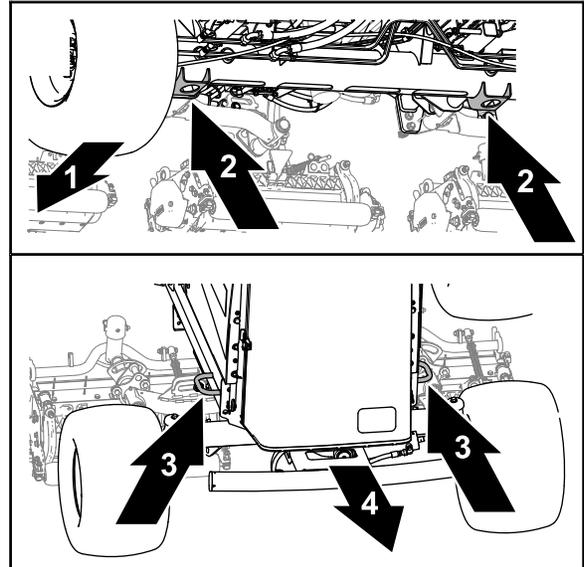

Figure 58
- Front—the hole in the jack brackets of the front-axle tube (Figure 58).